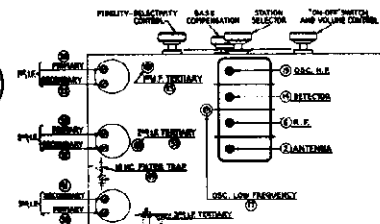

FIGURE 10
2. Adjust the 6 I. F. padding condensers ①, ②, ③, ④, ⑤ and ⑥ (see Fig. 10) in the tops of the 3 I. F. cans, for maximum output (minimum meter reading), starting with the padder at the front of the chassis, and continuing with the adjustments toward the rear of the set. During these adjustments, the output of the signal generator should be regulated to maintain a voltmeter reading of approximately 2 volts.
4. Readjust the 3d I. F. secondary padder ⑦ for maximum output.
5. Readjust the 3d I. F. primary padder ⑧ for maximum output. Do not touch the grid padder ⑨ again.
7. Adjust the 1st & 2nd I. F. tertiary padders ⑩ and ⑪ for MINIMUM output (maximum voltmeter reading).
8. Leaving the fidelity selectivity control in the right hand position, it will be found, upon varying the frequency of the signal generator, that two definite dips will appear in the voltmeter reading—one at 167 K. C. and another at 182 K. C. These dips in the voltmeter reading indicate peaks in the tuning curve. The amplitude of these peaks should be equal; that is, the same voltmeter reading should be obtained at both 167 K. C. and 182 K. C. Any variations in these two readings can be corrected by a slight readjustment of the 3rd I. F. primary padder ⑧. If the peak at 167 K. C. is higher than the one at 182 K. C., the primary padder will have to be turned out. If the reverse is true, the capacity of this padder must be increased. In any case, the voltmeter readings must be made equal by dividing the differences through readjustment.